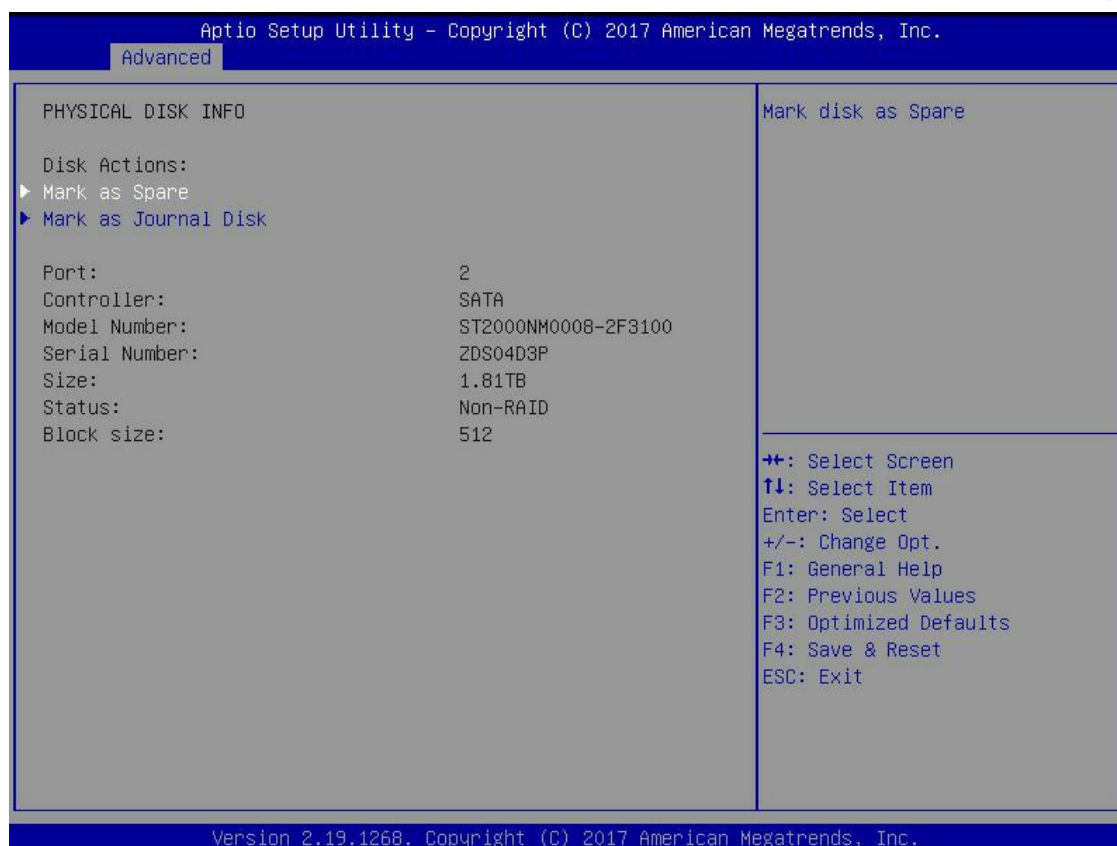

Fig. 6.9
b) Enter the interface shown in Fig. 6.9, select "Mark as Spare" and press enter.